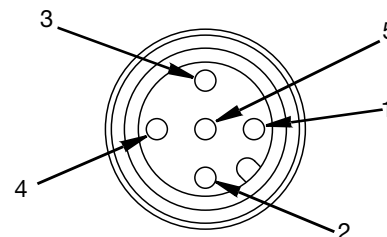

FIG. 20
- f. The Voltex Valve Integration Cable, 124416, will need to be connected to the non-Graco dispensing equipment or PLC. See FIG. 20.